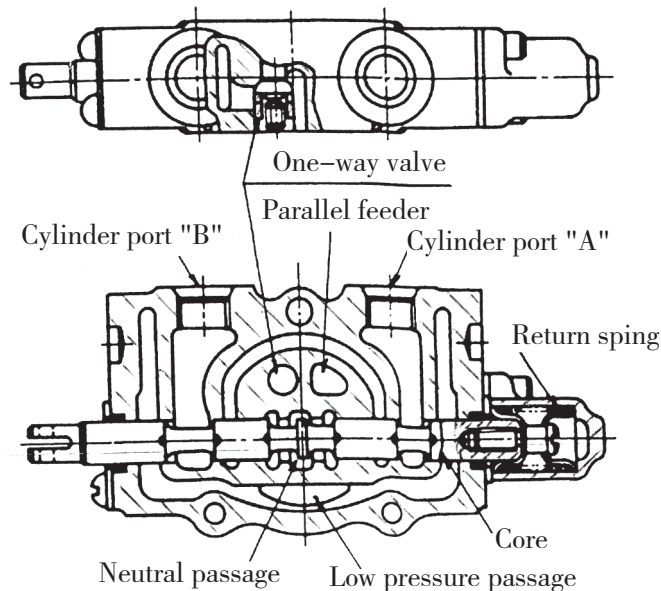

Fig.7.2 Neutral position
(1) Neutral position (See fig.7-2)